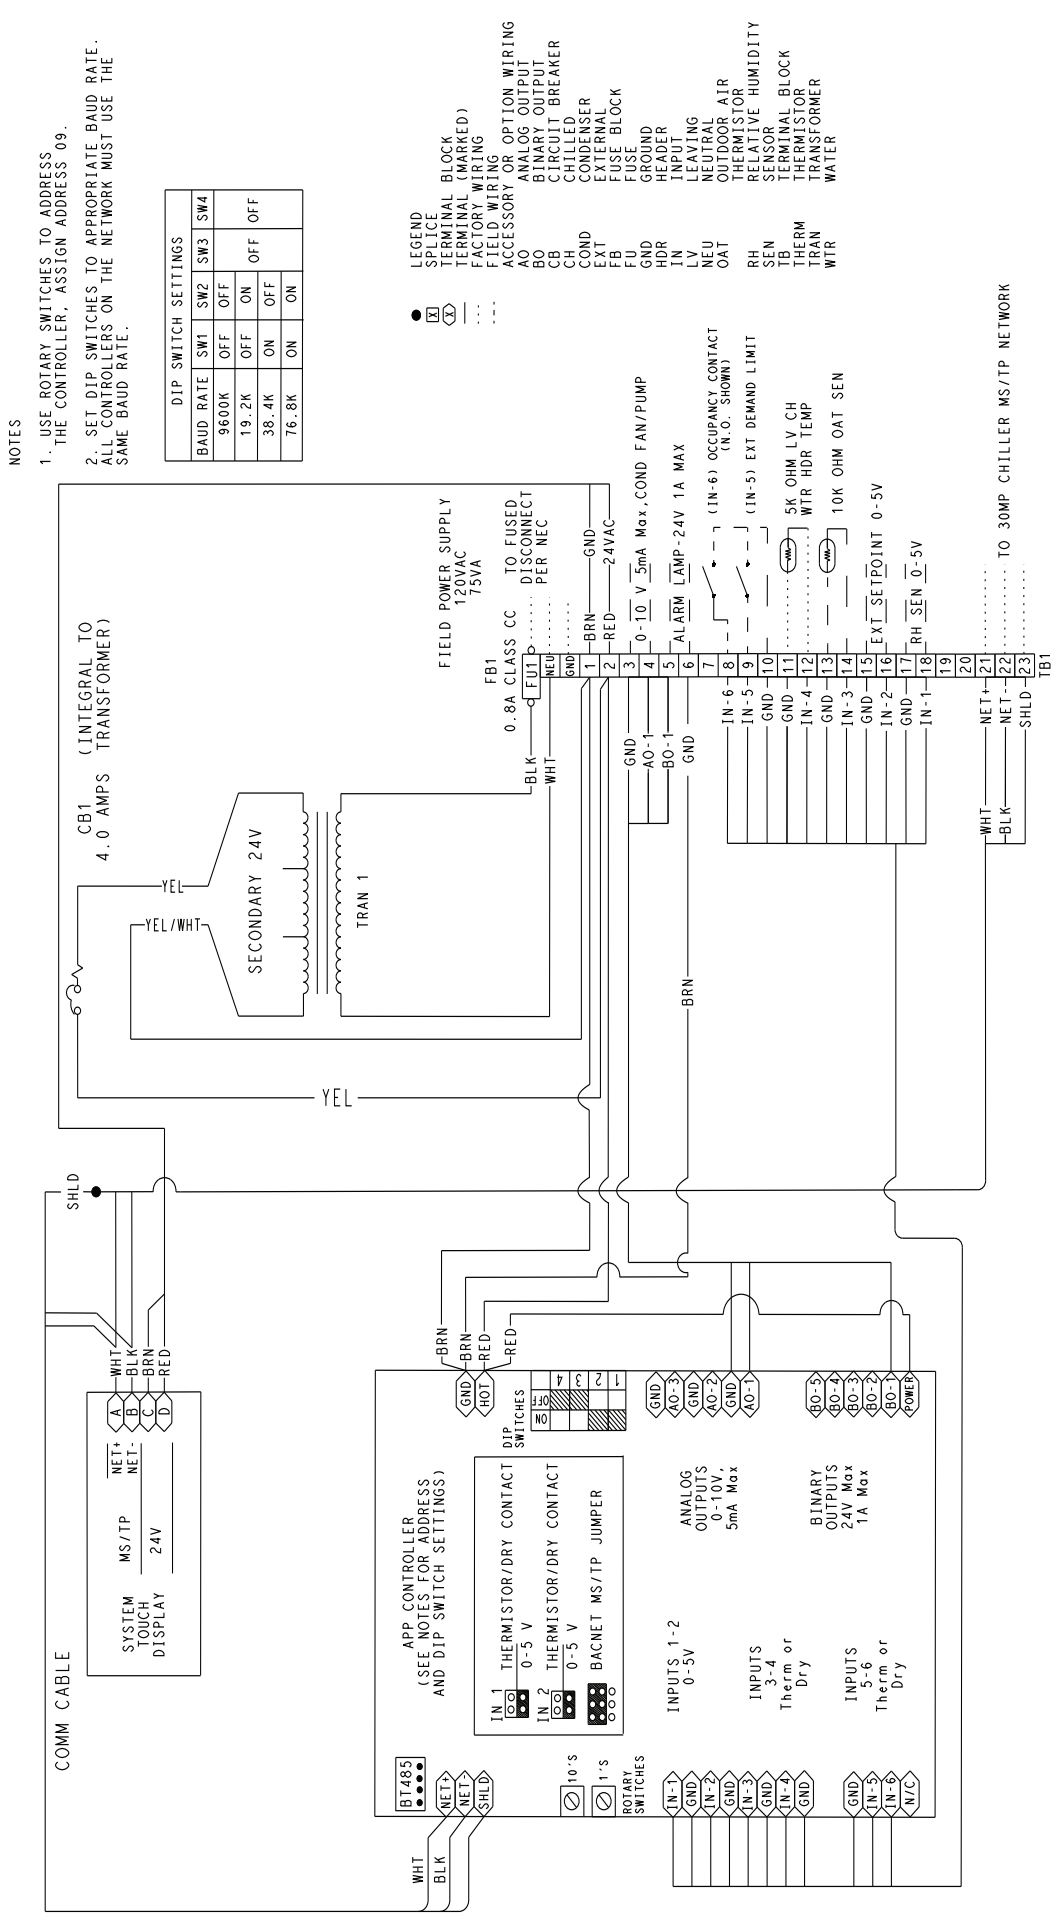

Fig. 12 — Typical Wiring Schematic
Tables 5 and 6 show each available output and input in addition to the leaving chilled water header temperature. All connections are made at the terminal block, TB1, as shown in Fig. 12 in the 30MP multi-chiller controller accessory panel.
To wire inputs and outputs, connect to the appropriate landings on the terminal block (TB1) in the 30MP multi-chiller controller accessory panel. Also, see Fig. 12 for the typical wiring schematic and Table 7 for input wiring specifications.
2. Wire the sensor to the 30MP multi-chiller controller Accessory Panel. See Fig. 12. Sensor must be terminated at Terminals 11 and 12 of TB1.
2. Wire the sensor to the controller. See Fig.12. Sensor must be terminated at terminals 13 and 14.
2. Wire the sensor to the controller. See Fig. 12. Sensor must be terminated at terminals 17 and 18.